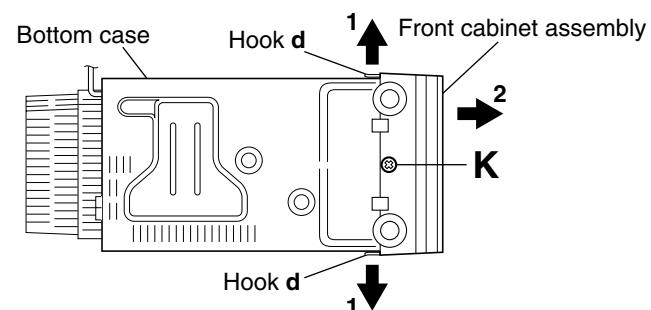

Fig.12
6. Remove the screw **K** retaining the front cabinet assembly from the bottom side of the main body. (See Fig.12.)
7. While opening the hooks **d** to the left and right of the lower part of the front cabinet assembly (in the direction of the arrows **1**), slide the front cabinet assembly toward the front (in the direction of the arrow **2**). (See Fig.12.)